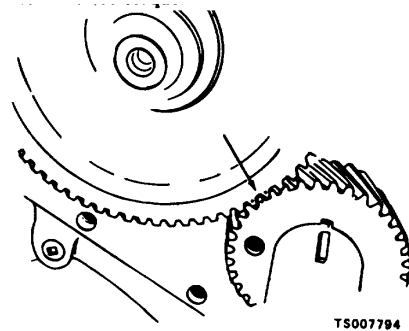

Figure 9-30. Timing Gears Showing Alignment Marks.
- b. Hold the camshaft toward the front of the engine with a bar inserted into the fuel pump hole. Align the timing marks on the camshaft and crankshaft gears (fig. 9-30) and drive the gear (11, fig. 9-6) onto the camshaft. Position the governor drive assembly against the camshaft gear and secure with nut (10, fig. 9-6). Tighten the nut to 85 to 90 ft/lbs torque.